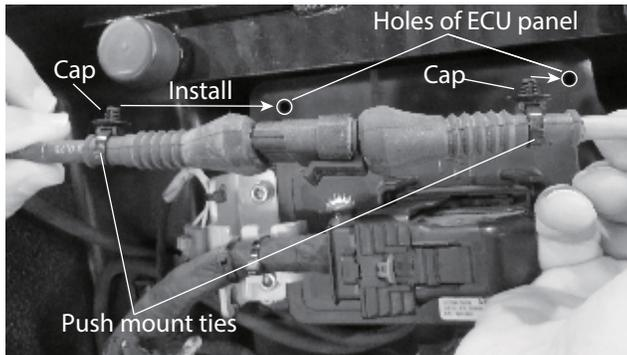

Figure 23. Secure Cables
- Tighten the two push mount ties to cables align the caps of them with the holes of the ECU panel. Then, secure cables by installing the caps of push mount tie to holes of ECU panel. See Figure 23.